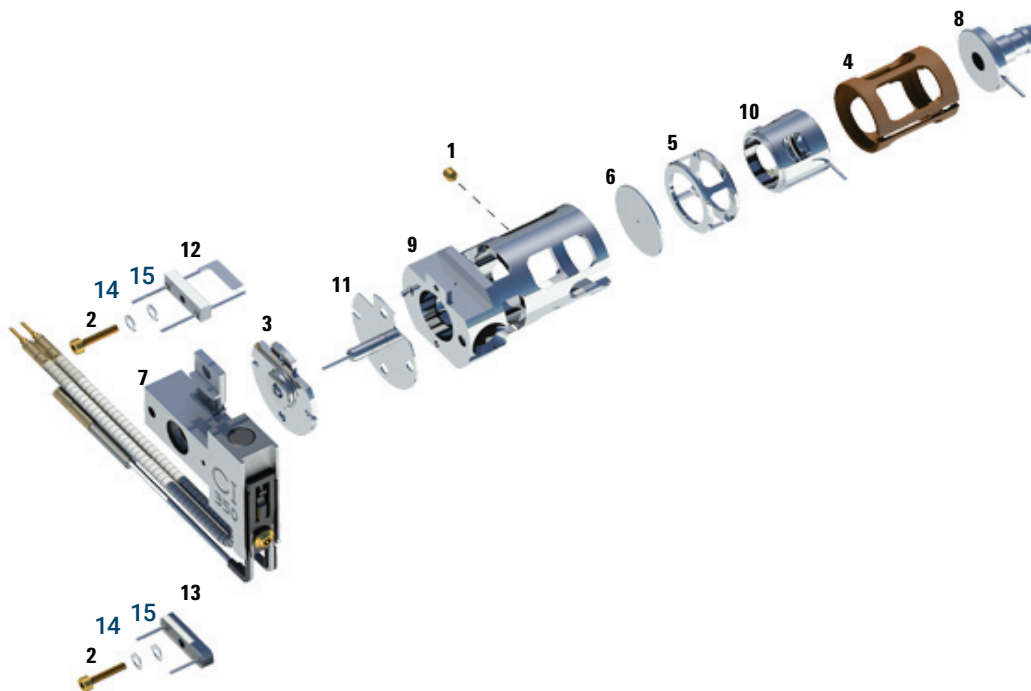

Figure 73. Disassembling the CI source
Refer to the exploded parts view **Figure 73** and CI source parts list **Table 26** on page 221 while using this procedure.
**Table 26** Parts list for CI source (Figure 73)
**Table 26** Parts list for CI source (Figure 73) (continued)